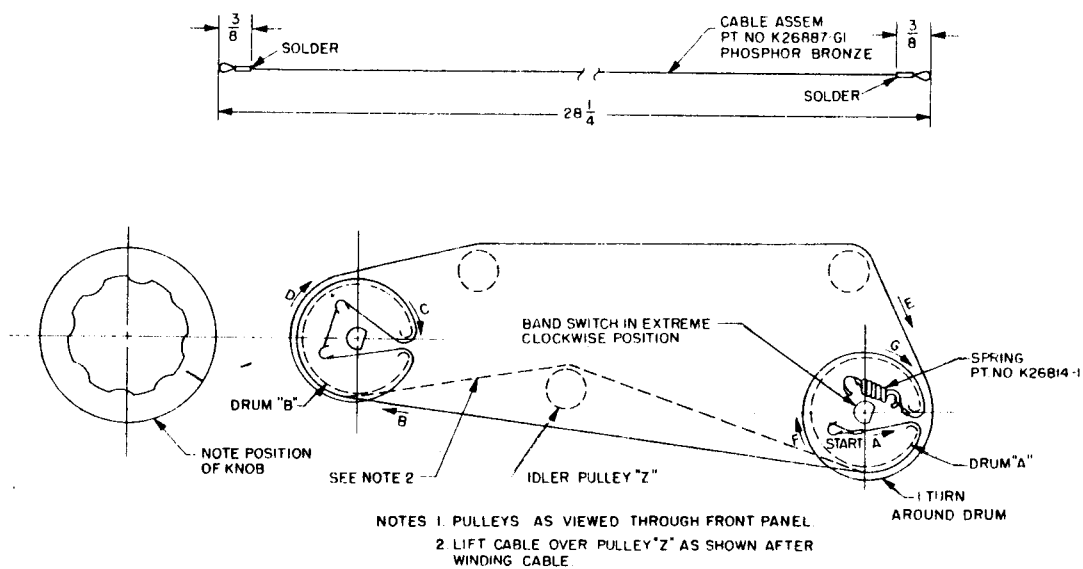

Figure 9. Restranging the Band Selector Mechanism
1. Refer to Para. 6-4, item 1 for front panel removal.
2. Make up band selector cable as shown in figure 9.
4. Place the loop end of the cable over pin 1 on drum "A". Following the lettered sequence shown in figure 9, string the band selector switching cable and anchor the spring over pin 2 on drum "A".
5. Check drum "B" for proper BAND SELECTOR indexing if index is off. Slip drum "B" through cable until correctly aligned. Clinch the cable under pin 1 to secure the cable positioning on the drum. Lift the cable up over idler pull "Z" as shown in figure 9.